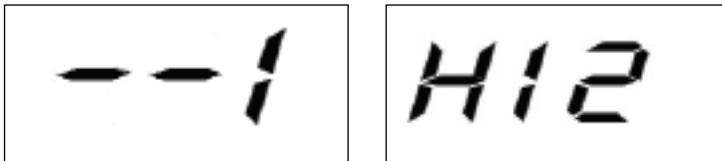

Fig. F5.7 Message "Final Nozzle Angle Marked on Tire"
- a) Rotate the valve to the 12 o'clock position and press [P4]  to continue. The screen will display the message shown in Fig. F5.7 at this point.